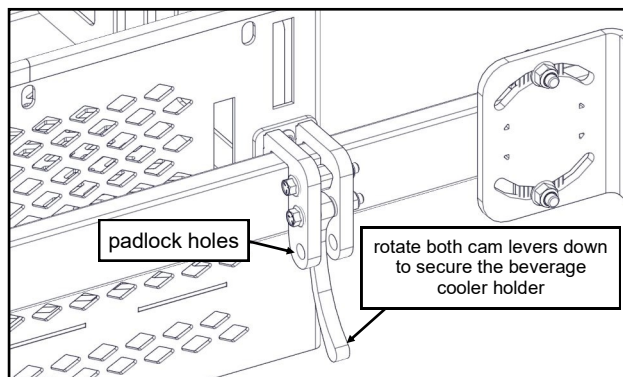

Fig. 9 (cam lever in the closed position)
9. To secure the beverage cooler holder to the Tool Bar, rotate both cam levers DOWN until they cam over. See fig. 9.
NOTE: For additional security, the beverage cooler holder can be locked to the Tool Bar by inserting a padlock through the holes in the mounting bracket where shown in fig. 9.